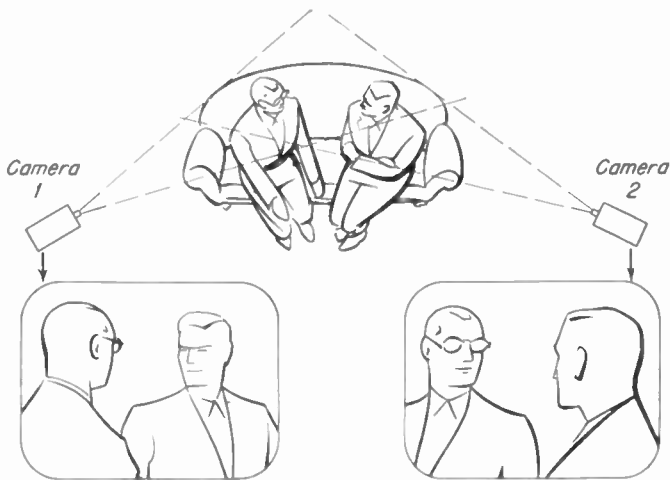

Fig. 6-5. Reverse-angle two-shots. This is an exception to the general rule against cutting between similar shots.
3. *Don't cut from one shot to another one just like it.* A cut from a two-shot to a two-shot adds nothing. To be sure, the second one may be from a different angle, but does it show the audience anything more? The only exception to this is in the case of "reverse-angle" shots, where the first camera looks over one man's shoulder to see the other full face and the second camera does the opposite from the other side (Fig. 6-5).